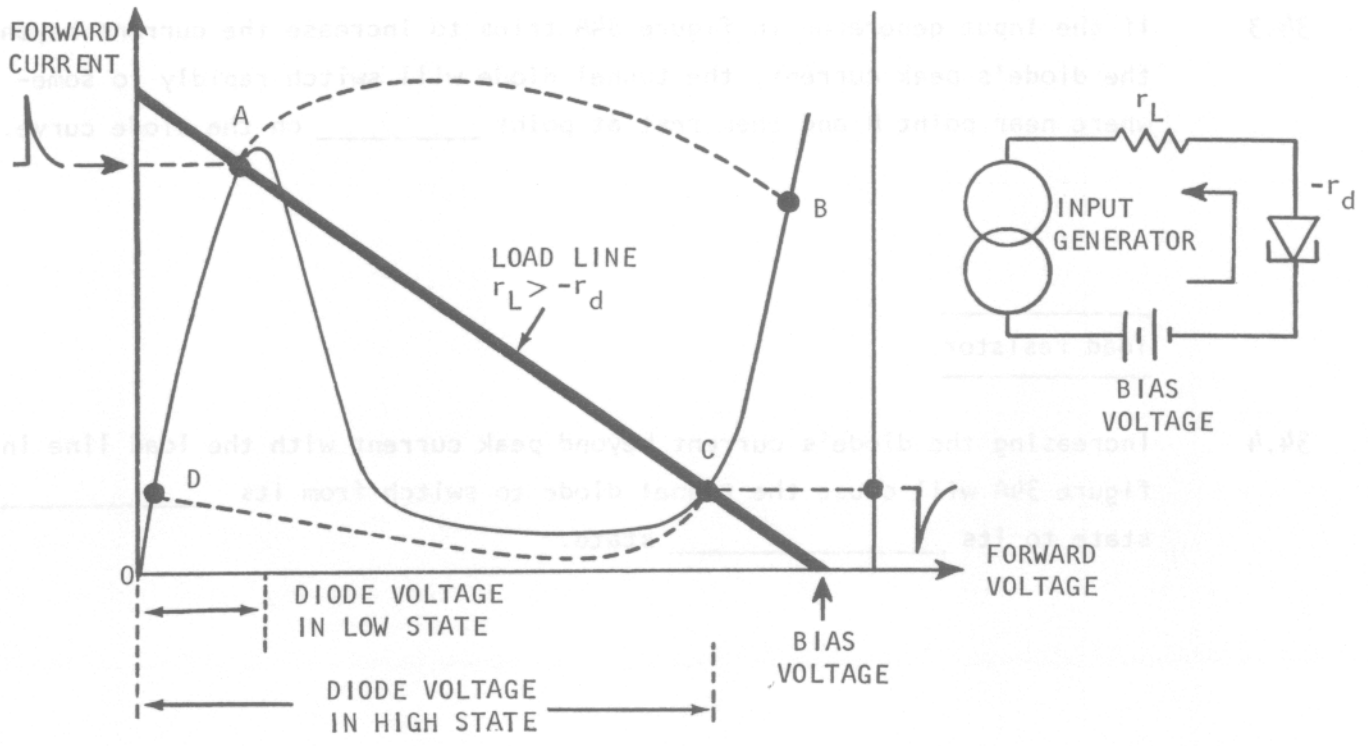

FIGURE 34A
34.6 With the diode in figure 34A in its high state (resting at point C), the input generator must reduce the current below _____ current to cause it to switch back to its low state.
34.7 The tunnel diode in figure 34A is a bi-stable, current driven switch. It is driven by current changes and has _____ stable states.